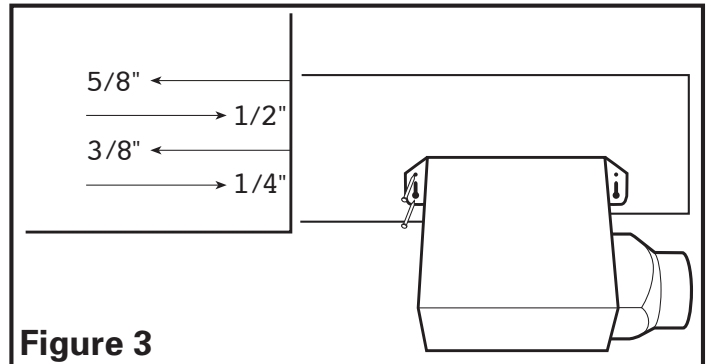
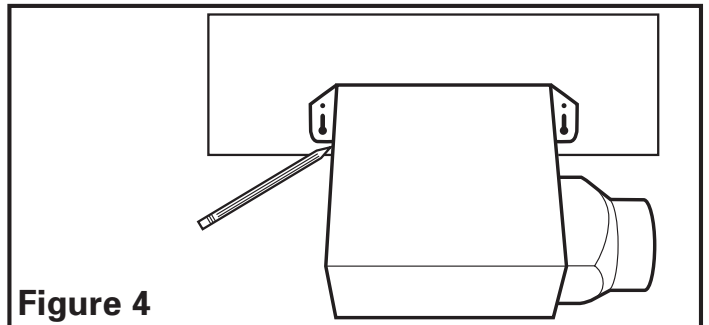

Figure 3
Figure 4
- Using the gauge on the fan's housing (**Figure 3**), line up housing so that it will be flush with the finished ceiling or wall. Position the fan so that the tabs rest flat against the joist or stud and secure with four nails (not provided) to ensure proper installation.
- Position housing against the joist or stud and trace an outline of the housing onto the ceiling/wall material (**Figure 4**). Set housing aside and cut opening, being careful not to cut or damage any electrical or other hidden utilities. Place housing next to the joist or stud and insure that it is flush with the finished ceiling. Secure with four nails (not provided) to ensure proper installation (**Figure 3**).